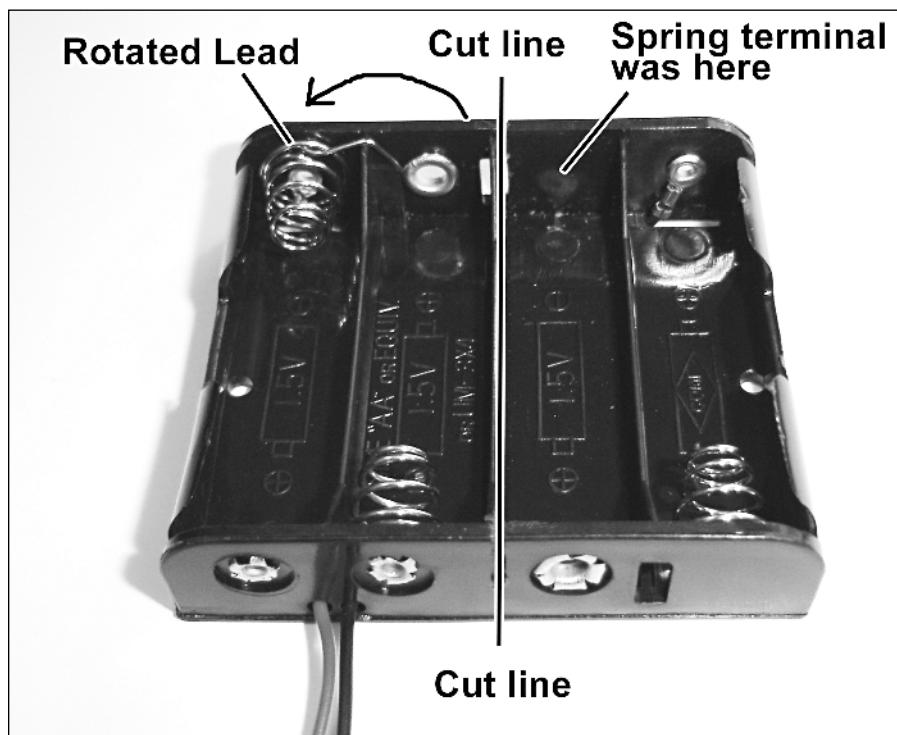

FIGURE 11-8: Modifying the battery holder.
1. Figure 11-8 shows a four-AA battery holder with the two wires positioned on the lower left. Snip the bit of black plastic so that the springy negative terminal on the top right can be rotated around to the left. Cut off most of the spring to leave only a small hook. You can then hook this into the springy terminal on the left and solder it in place.
2. Saw the battery holder in half as indicated in Figure 11-8. The saw line should be just on the right of the middle wall. We'll be keeping the left side of this holder and therefore we need that wall intact. You will find a black wire on the underside of the holder; go ahead and snip/saw through it. (Step 1 alleviated the need for this wire.)